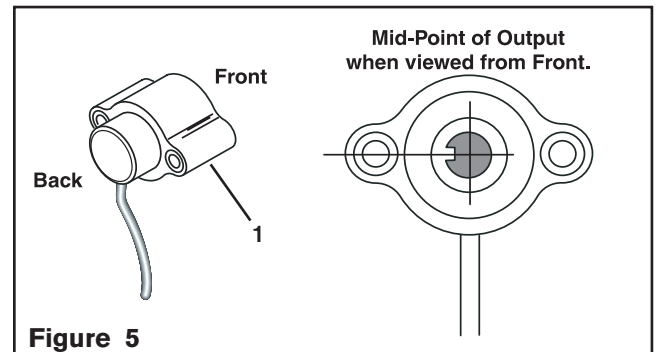

Figure 5
5. The orientation of the Dancer Position Sensor (Item 1) must be as shown in order to match the mid output of the Dancer Position Sensor to the mid travel position of the dancer arm (See Figure 5).